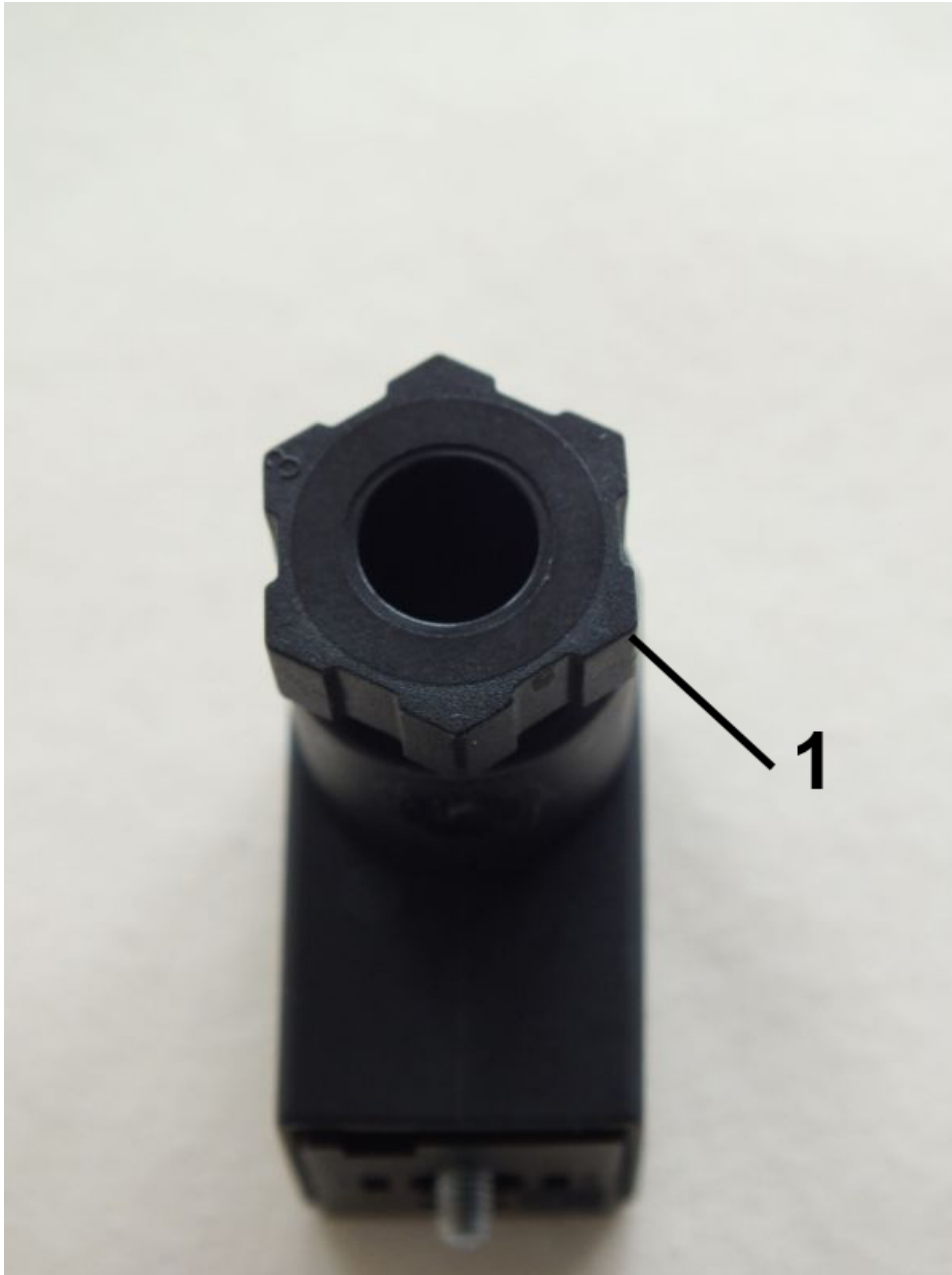

Fig. 24: Loosen the screw connection
- 4.** ➤ Loosen the screw connection (*Fig. 24/1*) by turning it to the left
- 8.** ➤ Retighten the screw connection (*Fig. 24/1*) by turning it to the right until tight